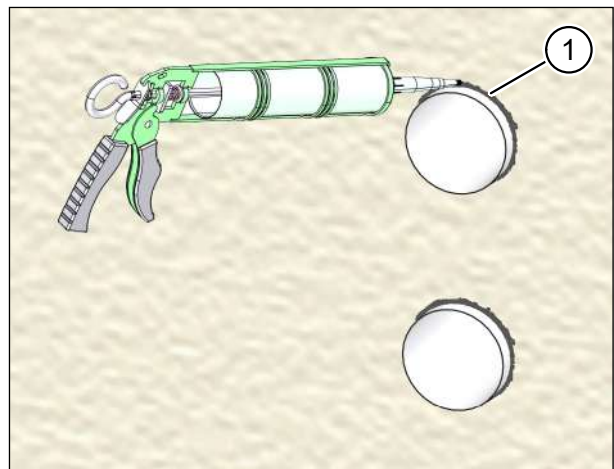

Fig. 36: Sealing ventilation pipes on the external wall
- ▶ Chamfer both pipe breakthrough edges (item 1 in Fig. 36) to roughly 5 x 45° to create enough space for the sealing joints with permanently elastic sealant.